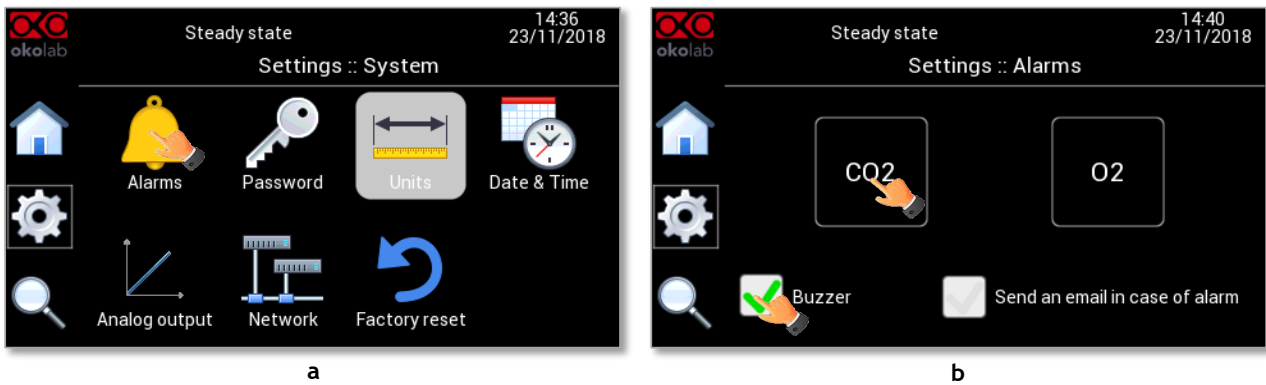

Figure 69. How to enter in Alarms page (a -b).
To set the alarms specifications, press the *Alarms* icon  (see Figure 69 a), then follow the indications below:
1. Click on the *CO2* Tab, Figure 69 b and/or *O2* Tab to set the gas deviation for a period of time then the system displays an Alarm and triggers, if the *Buzzer* is active.
Tip ► Flag the *Buzzer* checkbox (Figure 69 b) if you want the Alarm to be acoustical as well rather than just being displayed.